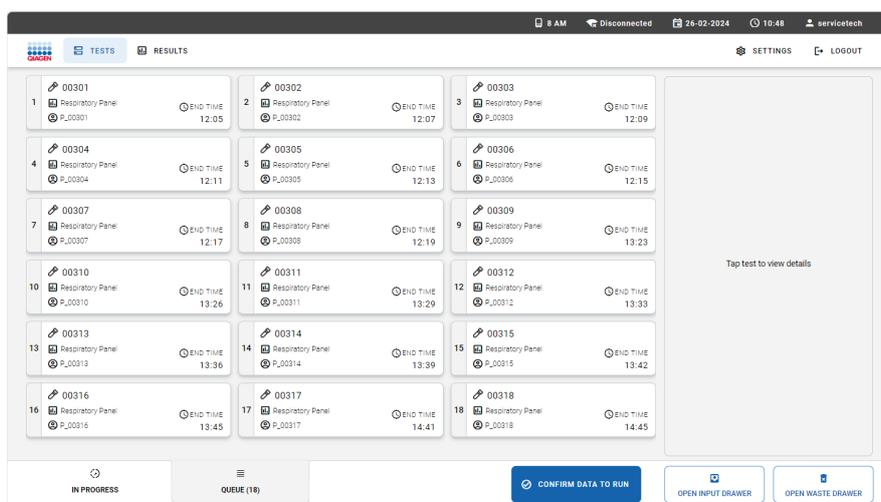

Figure 22. Sample queue screen.
2. Close the input drawer. The system will scan the sample ID barcode of the cartridges and prepare a queue (Figure 22).
When calculated, the test queue is shown as below (Figure 22). Review the data shown in the queue. In case of an error, the respective cartridge will be moved to the waste tray after confirming the queue.